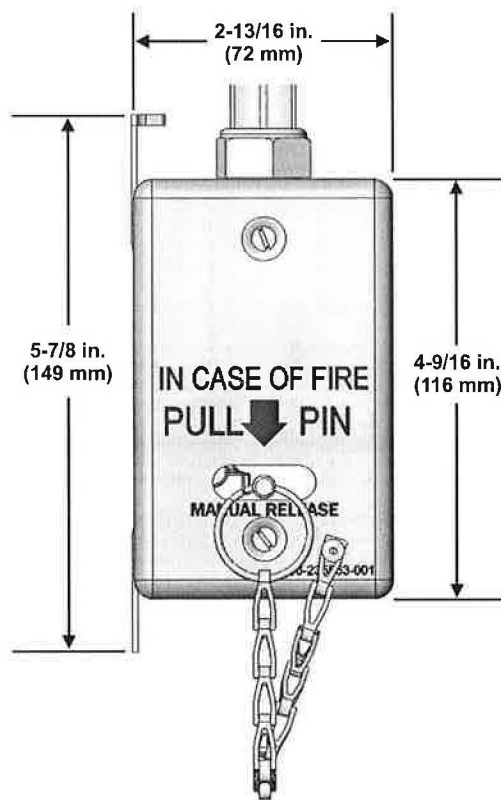

Figure 2-37. Recess Mounted End-of-Line, Remote Manual Release, P/N 9197461
- In-Line Surface Mounted Remote Manual Control (with In-Line Kit), P/N B100030 (Figure 2-37)
— designed for use at the end of the detection line (Figure 2-37).